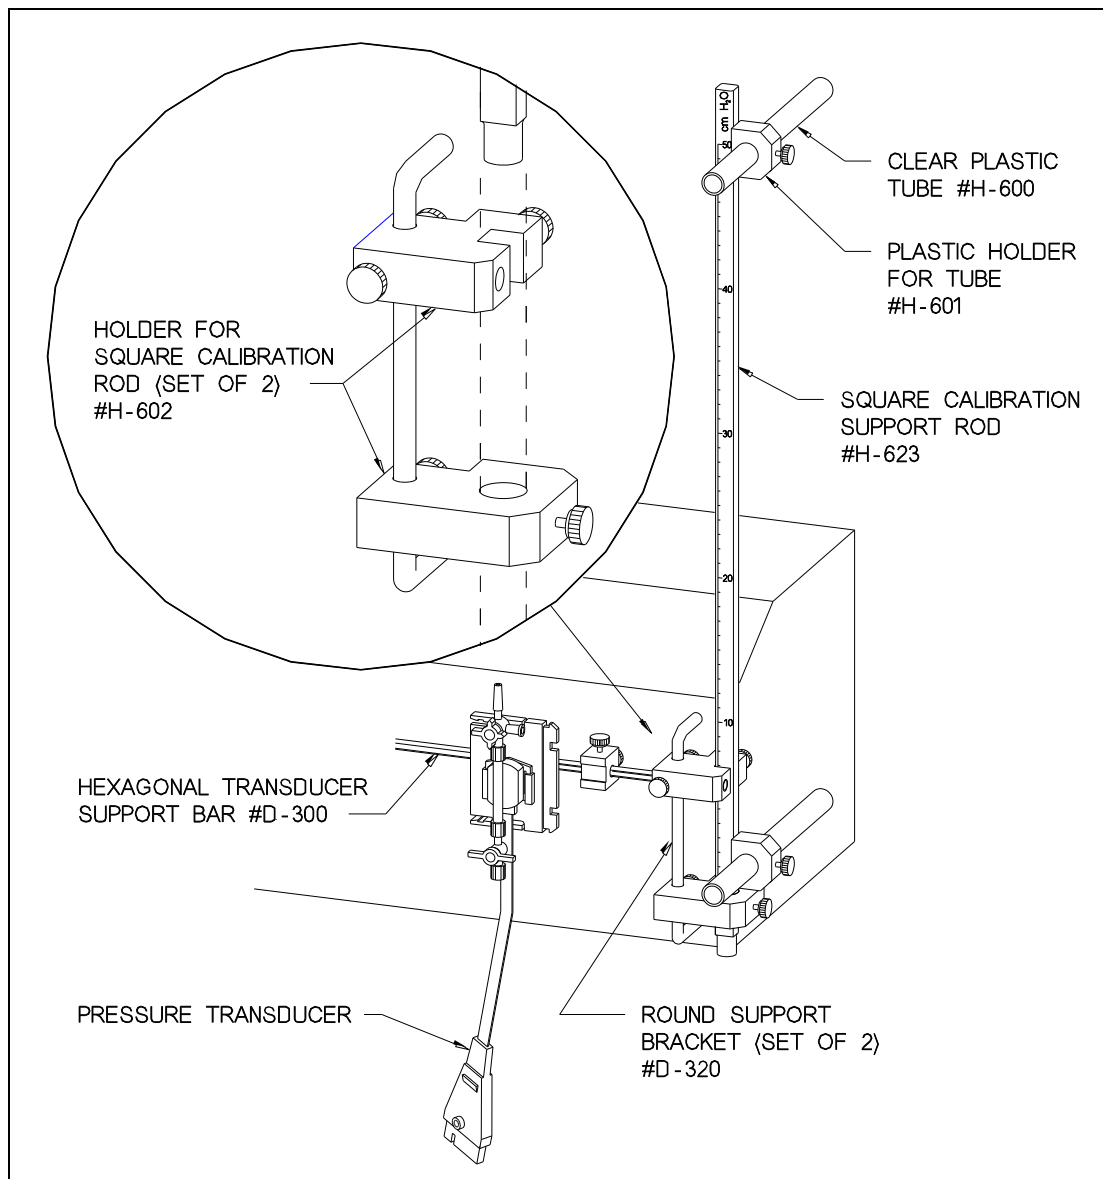

Figure 11. Hydrostatic Calibration System (0–50/68 cm H₂O)
- On the square calibration rod locate the two white plastic tube-holders. Slide a clear plastic 11-inch tube into the hole of each tube-holder as shown in Figure 11, below. Tighten the knurled screw to secure the clear plastic tube.
- Slide the square calibration rod into the two calibration rod holders on the right-hand round support bracket. The clear plastic tubes should be oriented perpendicular to the pump as shown in Figure 11. The lower clear plastic tube should be at the same level as the transducers for 0 cm H₂O or low calibration. The upper plastic tube is for 50 or 68 cm H₂O for high calibration (68 cm H₂O = 50 mm Hg).